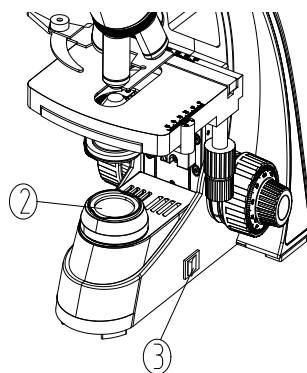

Fig.2
4. When working, the surface of condenser will be very hot. Make sure there is enough room for the heat dissipating around the condenser ② (see Fig. 2).
5. For safety, make sure the power switch is at "O" (OFF) and power it off before replacing the bulb or fuse (See Fig. 2), and wait until both the bulb and bulb holder have cooled down.